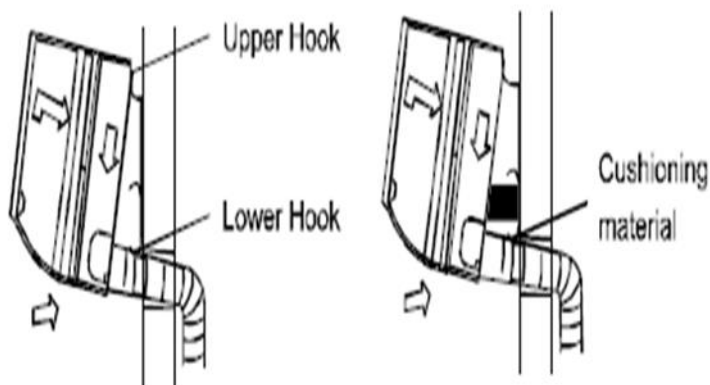

Figure 10
3. Piping can be made by easy by supporting the indoor unit with a cushioning material between the indoor unit and the wall. Remove it after finishing the piping. See figure 10